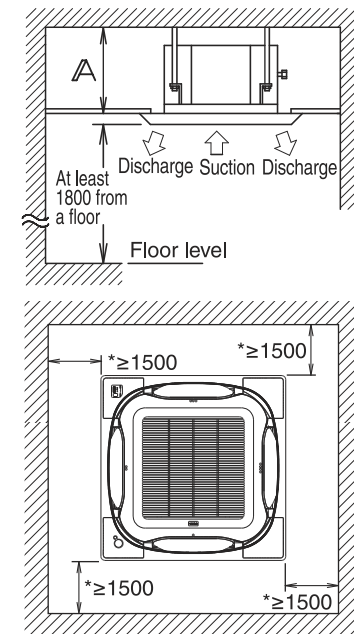

Fig. 1
(1) Select the installation location that meets the following conditions and get approval of the customer.
- Where a space sufficient for installation and service can be ensured. **(Refer to Fig. 1)**